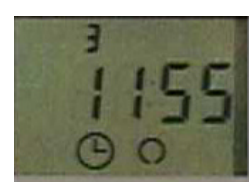

Fig. 3
- the ':' symbol between the hours and minutes display will start to flash, this indicates that the clock is now keeping time (see fig. 3).